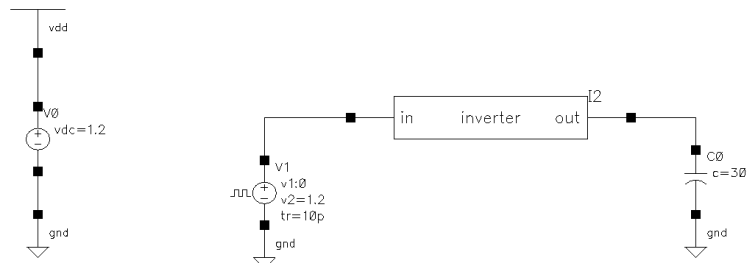

Figure 5: Schematic of the test bench with inverter.
12. Connect **vdc** between **vdd** and **gnd**; **vpulse** connects to the inverter input. Place the load capacitor on the output. Your schematic should look something like figure 5.